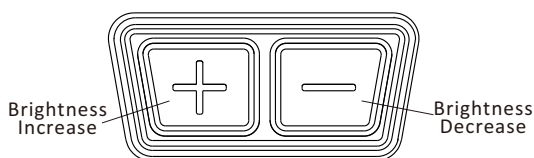

Fig5
**1.Switch on:** Press and release either brightness button ("+" or "-") to turn on the sight, See Fig 5.